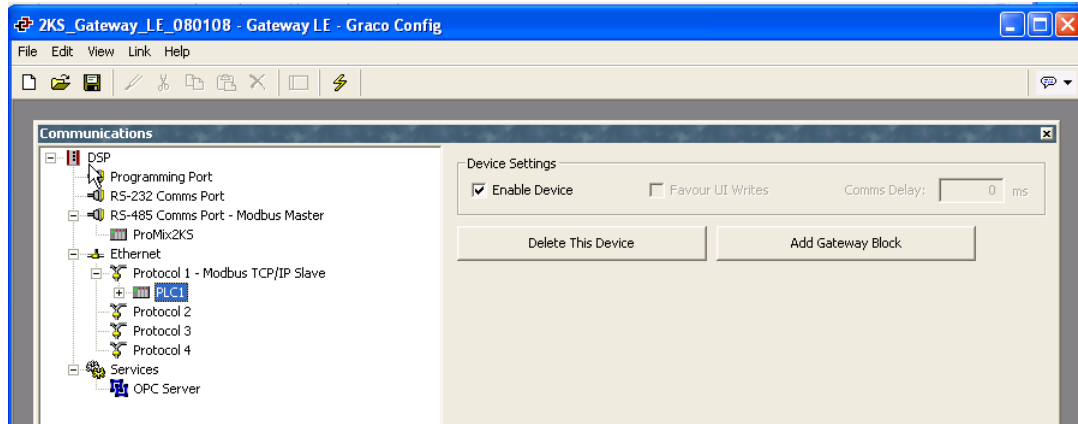

FIG. 20: Rename PLC1
3. See FIG. 20. Right click on device PLC1 to rename it to something meaningful for your system.